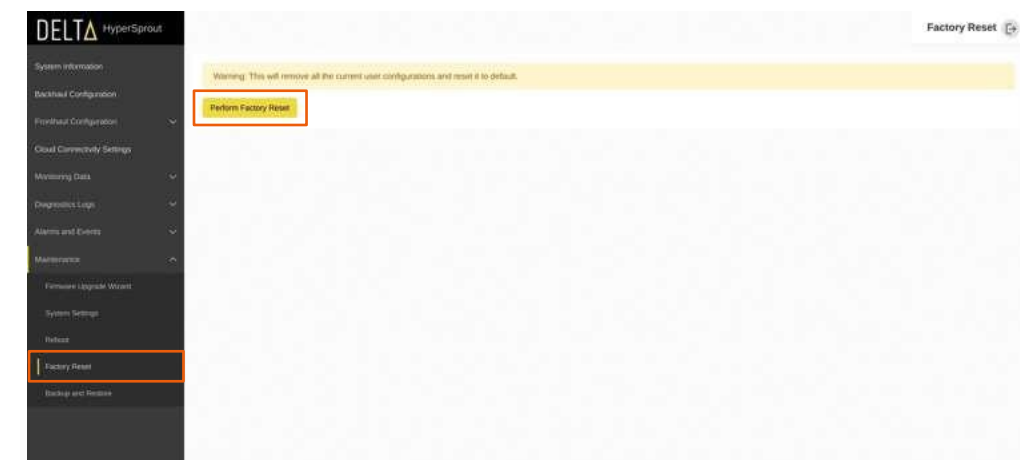

Figure 70: Factory Reset
- To conduct a factory reset, navigate to **Maintenance** and then select **Factory Reset** as shown in *Figure 70*.